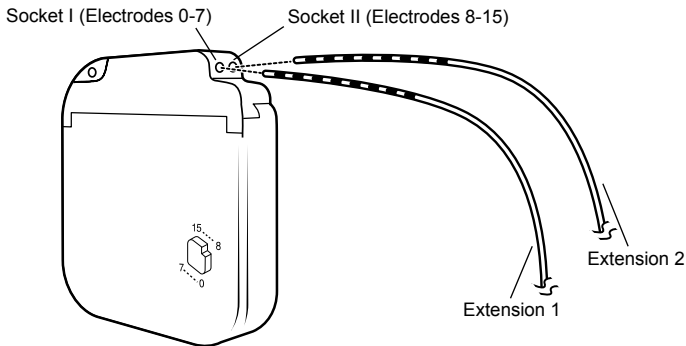

Figure 1. Insert the extension connectors fully into the neurostimulator socket.
4. Insert each extension connector into the appropriate neurostimulator socket until it is fully seated within the connector block (Figure 1).